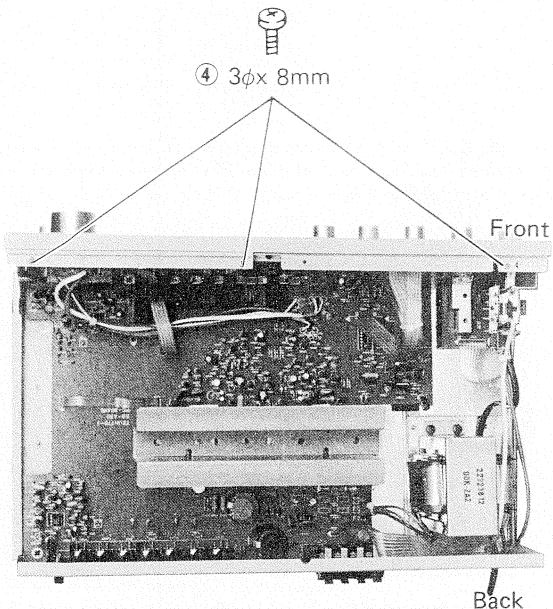

Figure 6
3. Remove three screws ④ ($3\phi \times 8mm$) holding front panel and bottom plate, then front panel can be removed as shown in Figure 6.